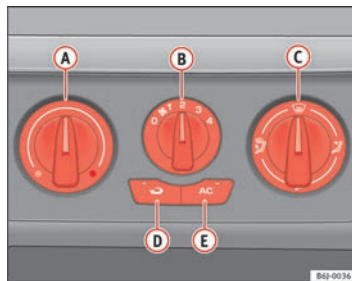

Fig. 92 Air conditioning controls on the dash panel
- Disconnect the cooling system using button ⇒ fig. 92 **AC** (the button light turns off).
When air recirculation mode is switched on (button  page 123, fig. 92  with warning lamp) strong odours in the outside air do not enter the vehicle interior, for example when passing through a tunnel or in a traffic jam.